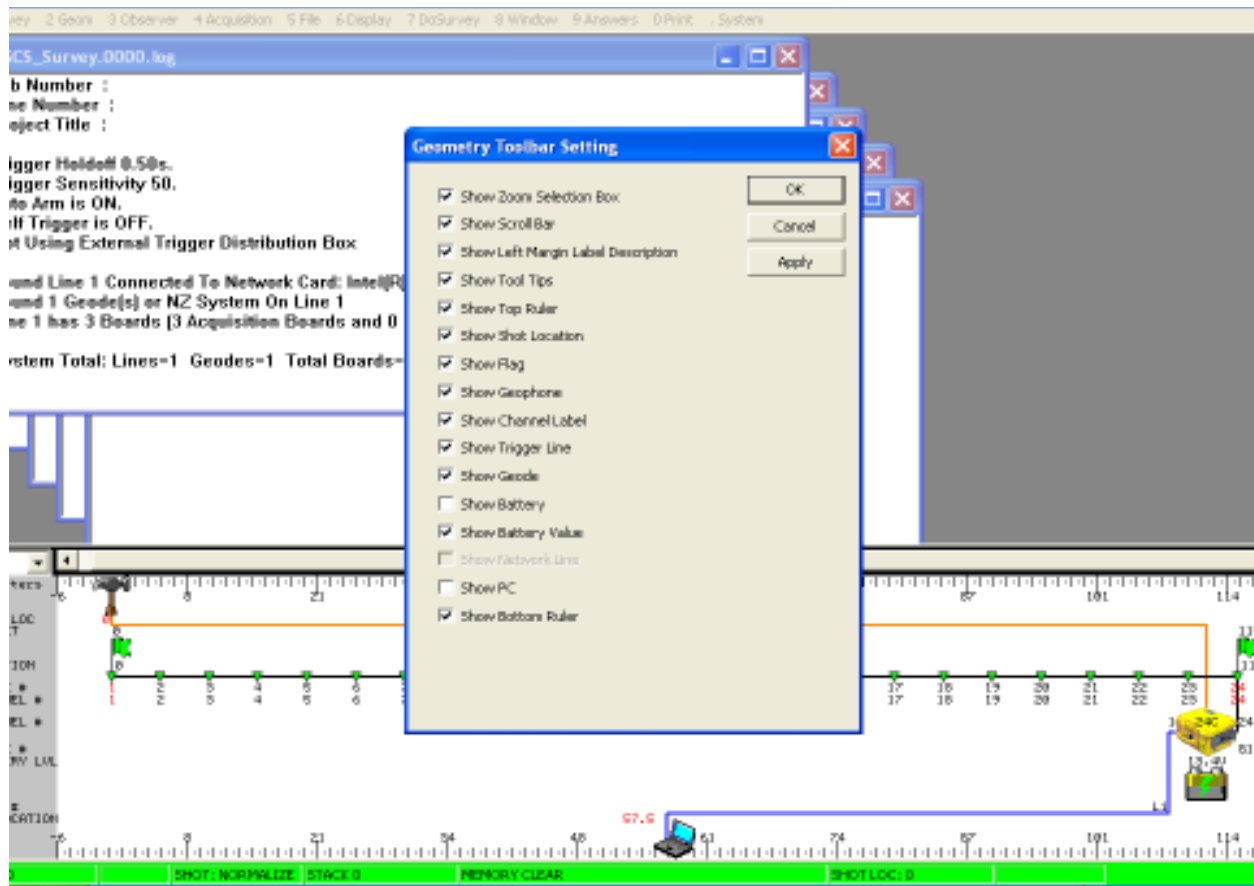

Figure 4. Checkbox selection in Geometry Toolbar Settings
2. Uncheck "Show PC", "Show Battery", "Show Flag", and any others you think are unnecessary (Figure 4)